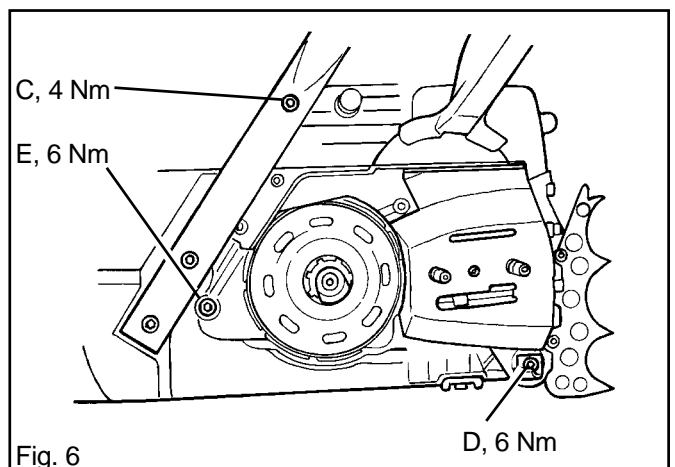

Fig. 6
9. Fit the bolts (C and D), chain catcher and travel limiter bolt (E) on the clutch side. See fig. 6. Tighten the bolts to the torque shown on the diagram.
#### Score marks on the piston. Fig. 6.